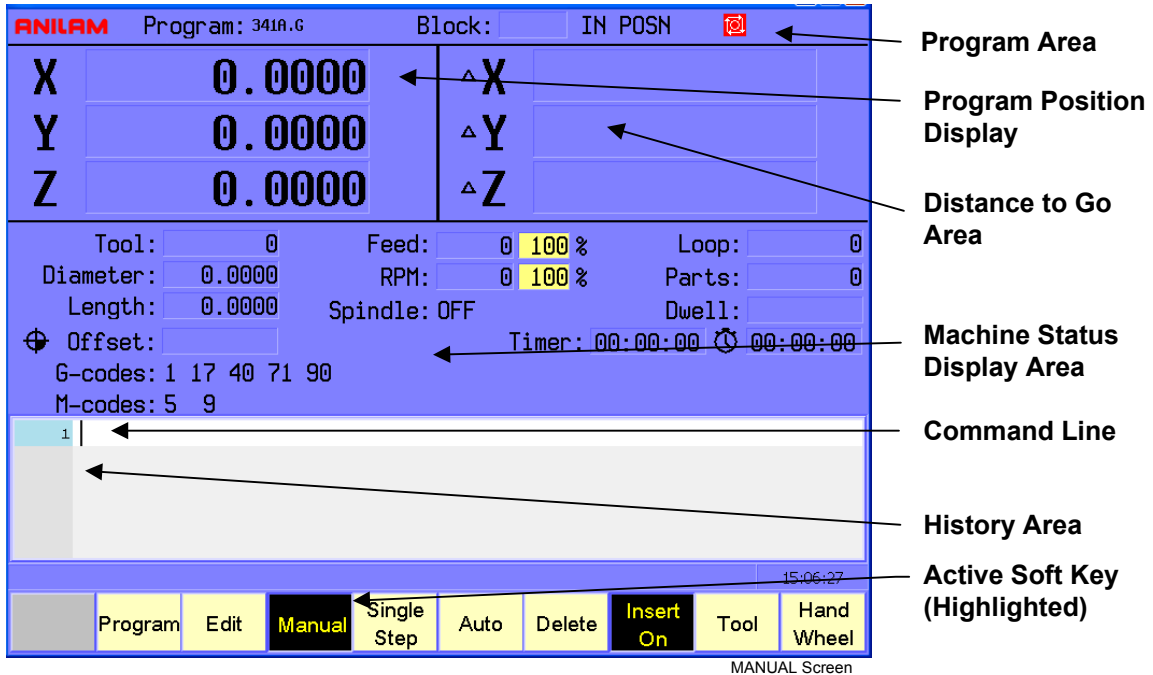

Figure 3-7, Manual Screen
5. Select **Manual (F4)** to display the Manual screen (refer to Figure 3-7, Manual Screen for illustration with callouts). Refer to Table 3-3, Manual Screen Soft Keys.
In Manual Mode, the CNC displays the Manual screen. The Manual screen is the basic operating screen and is displayed when the CNC is turned on. All other operating screens are similar in appearance and selected from the Manual screen soft keys. When the Manual Mode is active, the **Manual (F4)** soft key label highlights. Refer to **Figure 3-7**.